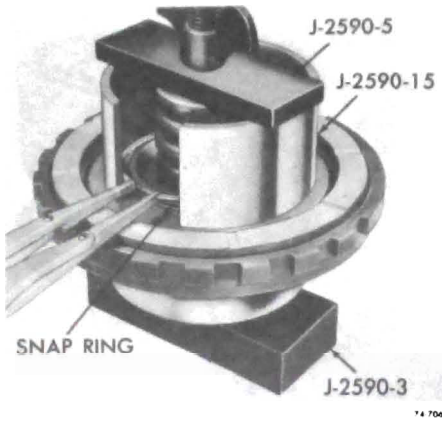

Figure 76-706
2. Using Clutch Compressor J-2590, compress spring retainer and remove snap ring. See Figure 76-706.